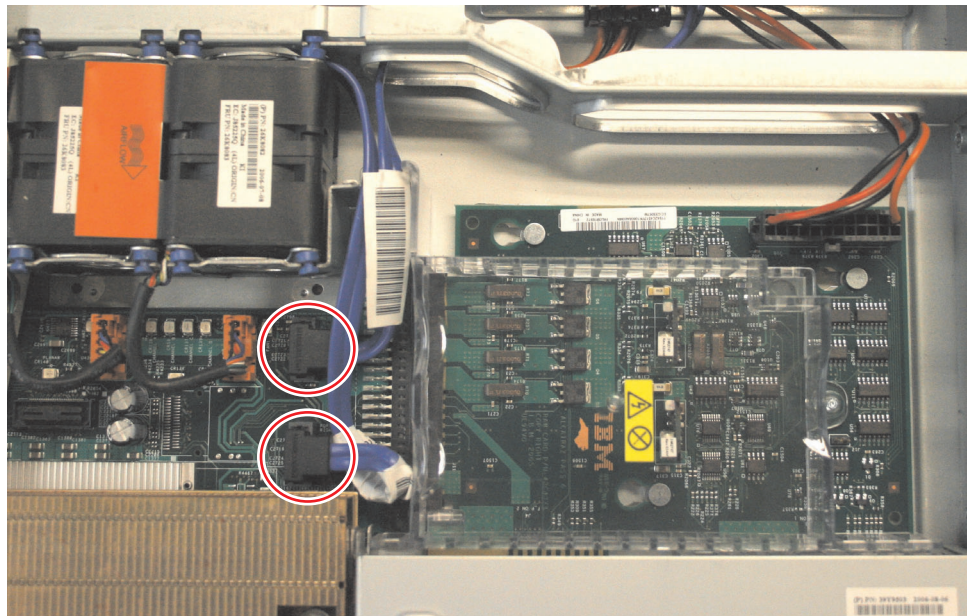

Figure 103. The SAN Volume Controller 2145-8G4 disk cable assembly connectors
4. Reconnect the power cable to the power supply backplane card. Then reconnect the two blue signal cables to the system board. The left cable goes to the front system board connector and the right cable goes to the rear system board connector, as shown in Figure 103.